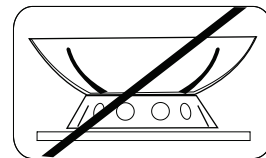

Fig. 2
- Do not remove the pan support and enclose the burner with a wok stand not supplied by Electrolux as this will concentrate the flame and deflect the heat onto the top plate. (Fig 2)